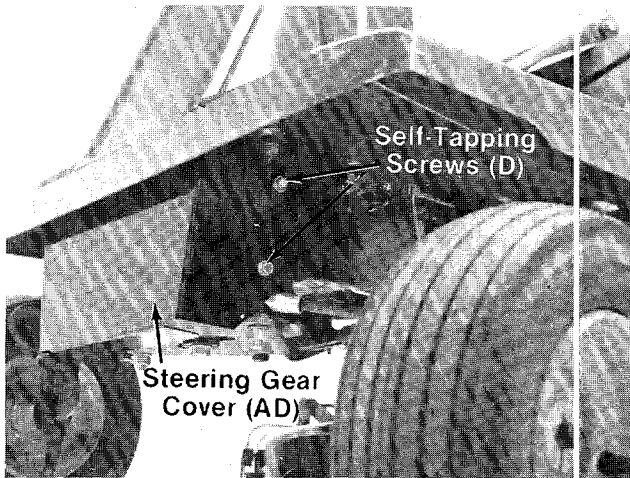

FIGURE 10.
15. Install the **steering gear cover (AD)** as shown in figure 10, to cover the underside of the steering mechanism. Secure with two **self-tapping screws (D)** on each side of the cover. Do not completely tighten any of these screws until all four of them are positioned correctly.
16. Press **steering wheel cap (F)** in place in the center of the **steering wheel**.